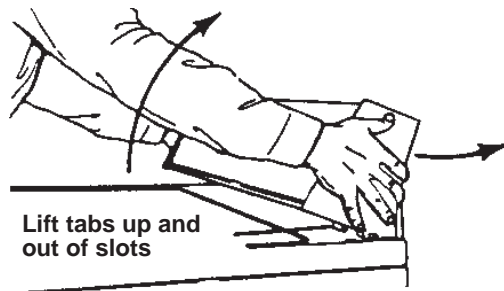

Figure 1
2. Remove the screw from each end cap that holds the console to the top. Some models will have end cap trim pieces that will have to be removed first. Flip console out of the way. See Figure 1.